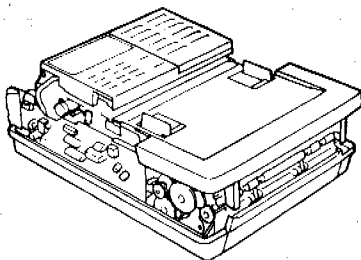

Fig. 4-4-6 Basic disassembly procedure 1
8. Fig. 4-4-6 shows the result of basic disassembly procedure 1.